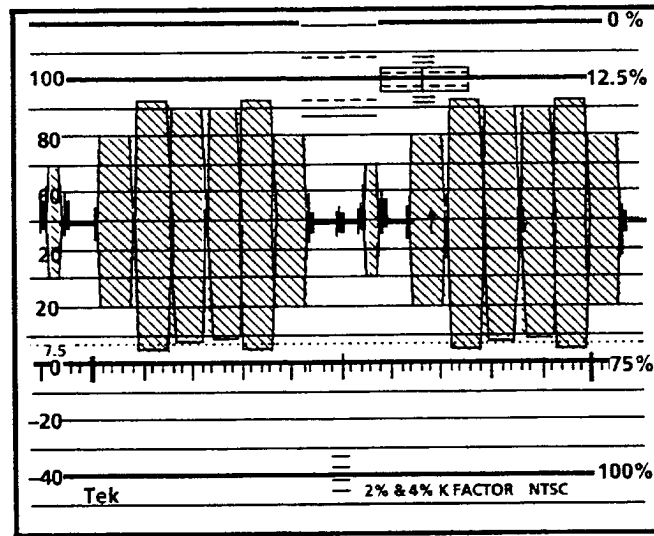

Figure 1-9: 2 Line display of color bar signal with Chroma filter on
- b. Press the FILTER button once more and look to see that the CHROMA indicator is lit. The signal is now displayed as chrominance only; the luminance component is removed. See Figure 1-9.